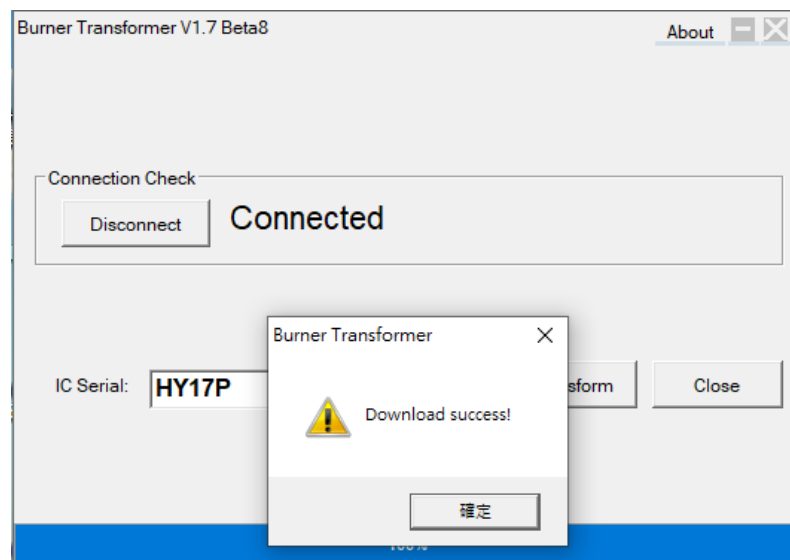

Fig. 5-4
- If the update is OK, the progress bar will display 100% (Figure 5-4), then remove the 8PIN socket's pin1 and pin3 short-circuit caps in the side Program port to complete the update.